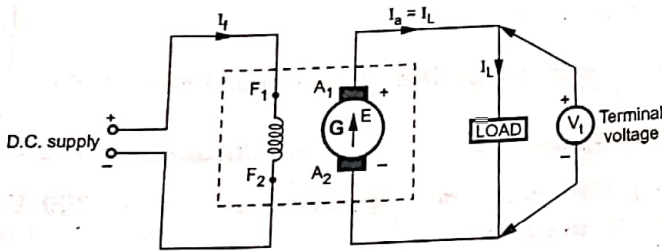

Fig. Q.37.1 Separately excited generator
• The Fig. Q.37.1 shows the circuit of separately excited generator